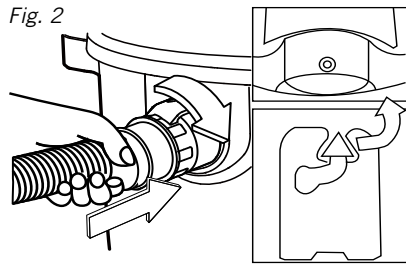

Fig. 2
- Insert the larger end of the hose 15 into the vacuum port on the collection tank 10 and lock into place. Fig. 2.